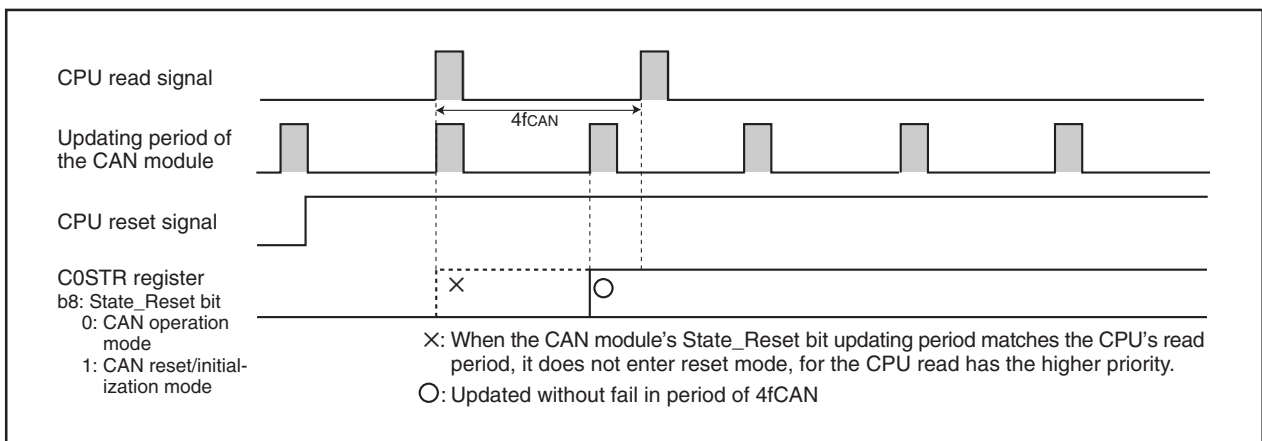

Figure 23.7 When Polling Period of CPU is $3f_{CAN}$ or Longer
- (b) When the CPU polls the C0STR register, the polling period must be $3f_{CAN}$ or longer. (See **Figure 23.7 When Polling Period of CPU is $3f_{CAN}$ or Longer.**)